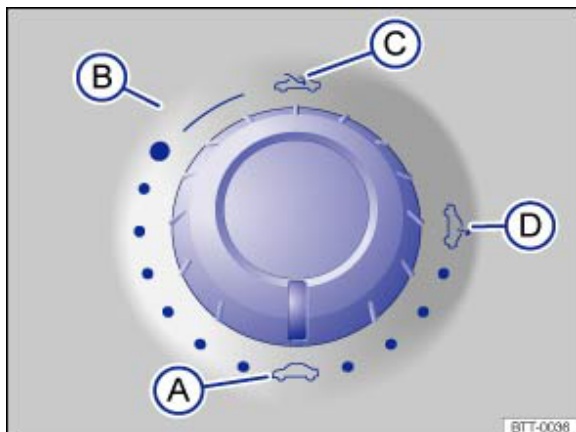

Fig. 37 Roof: rotary switch for the sliding/tilting roof
Turn the rotary knob → Fig. 37 to the required position to select the following positions for the sliding/tilting roof:
- Push the rotary knob at the front in position → Fig. 37 @ until the sliding/tilting roof is fully closed.